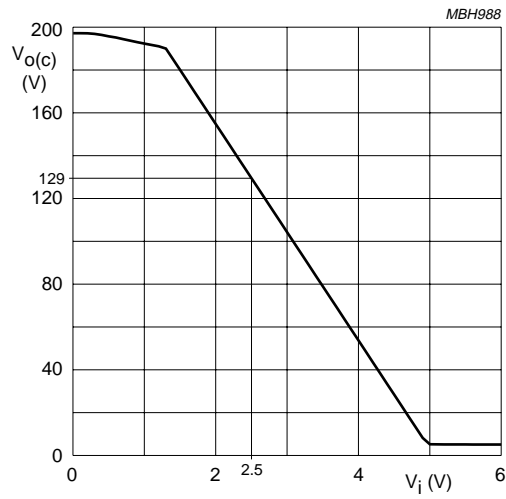

Fig.5 Typical DC-to-DC transfer of V_i to V_{oc} .
1. See also Fig.5 for the typical DC-to-DC transfer of V_i to $V_{O(oc)}$.